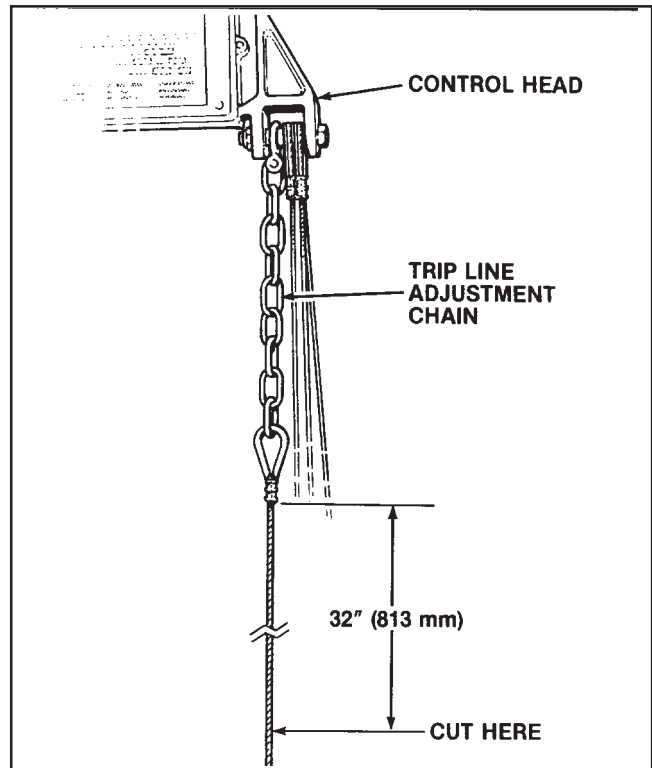

Fig. 6: Cut 32" (813 mm) off the trip line.
7) Cut 32" (813 mm) off the trip line as shown in Fig. 6.